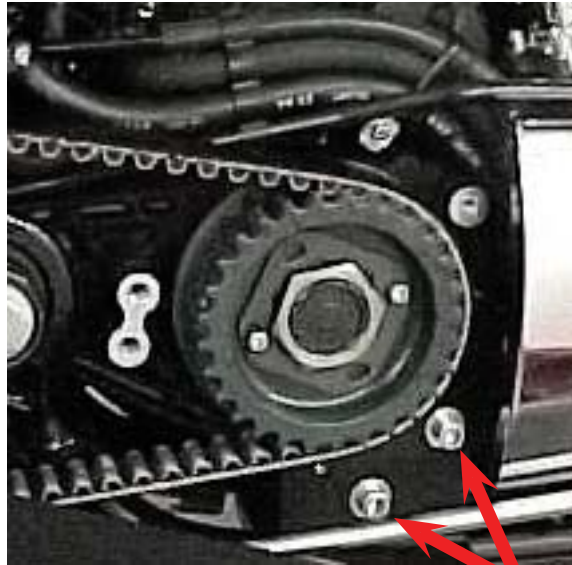

Figure 1
2. Install and tighten supplied mounting bracket #7-70042 with supplied 3/8" x 3/4" bolts, torque to 30-33 ft/lbs, refer to *(Figure 1)*.